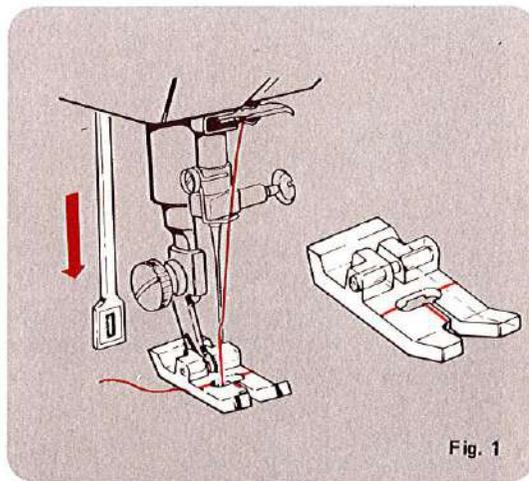

Fig. 1
1. Attach the two-step buttonhole foot to the machine and pull down buttonhole lever. (See Fig. 1)
- If the stitches on the left side of the buttonhole are too dense, turn the balance dial to the left (toward W) while sewing the first leg of the buttonhole until you obtain the appearance of the stitch to your liking. (See Fig. 1)